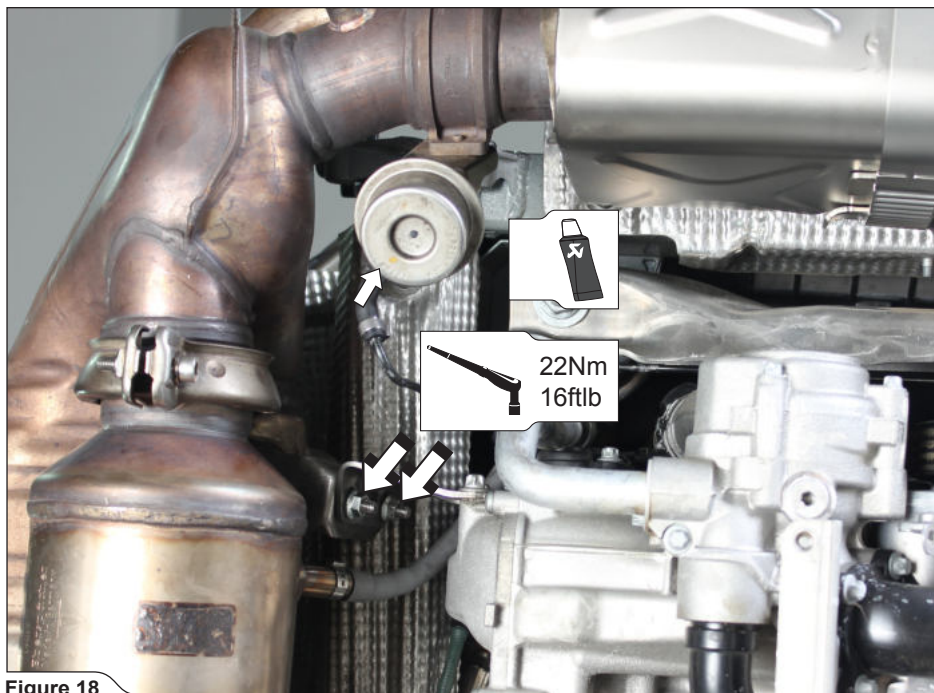

Figure 18
5. Connect stock vacuum tubes to the stock vacuum actuators and tighten left side muffler's bracket bolts and nuts to the specified torque (**Figure 18**).